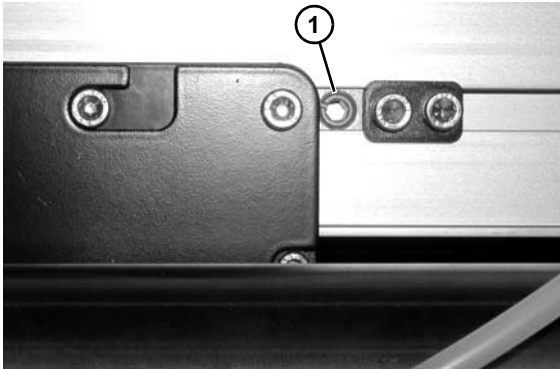

Figure 72
3. Rotate the tracking cam (**Figure 72, item 1**) in small increments, each time inspecting the belt as it exits the center drive. Continue to rotate the tracking cam until conveyor belt is tracking normally.